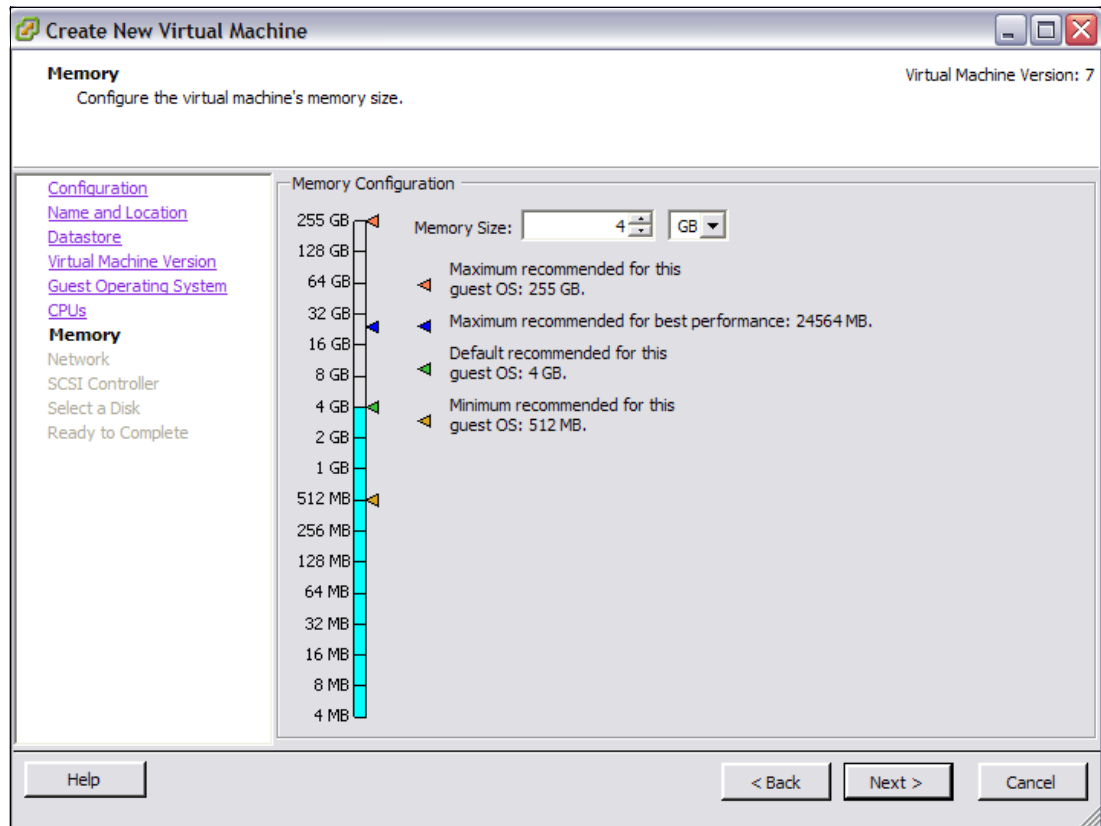

Figure 22-79 Memory allocation
9. In the Memory allocation window (Figure 22-79 on page 711), provide the guest with the necessary amount of memory as required. Click **Next**.